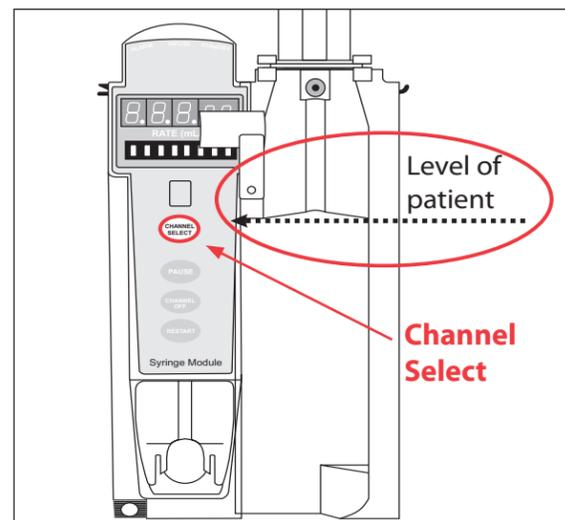

fig. 1
1. Ensure set is not connected to patient and that device is at or below level of patient (fig. 1)